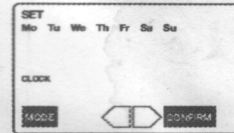

Figure 4
- Push + or - button to select the current day of the week. The day selected will flash. (See Figure 4)